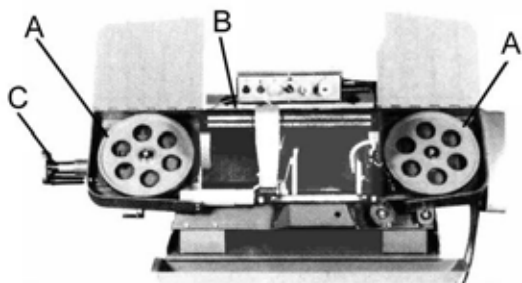

Figure 6. Blade Tensioning
4. Release blade tension by turning the blade tension handwheel (Figure 6, C) counterclockwise.
8. Place the blade in place on the wheels (Figure 6, A) and through the upper blade guard (Figure 6, B).